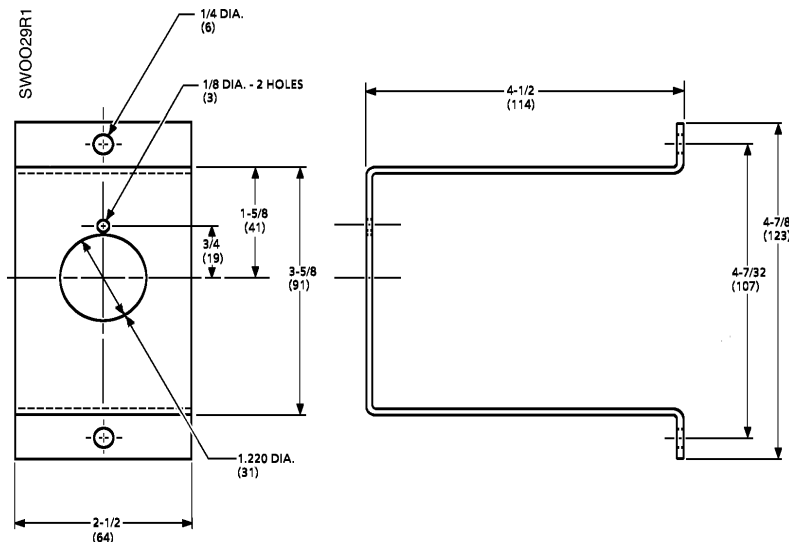

Figure 3. Surface Mounting Bracket.
1. Using the bracket as a template, drill holes for mounting the bracket. See *Figure 3*. Mount the bracket.